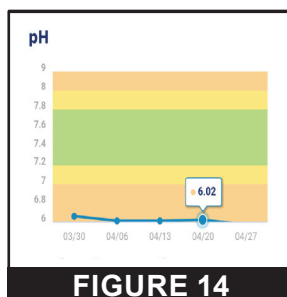

FIGURE 14
Press to open Water Temperature History screen (**Figure 14, page 6**).
- **pH (Figure 14):** Previous pH readings can be viewed on an hourly, daily, weekly or monthly graph.